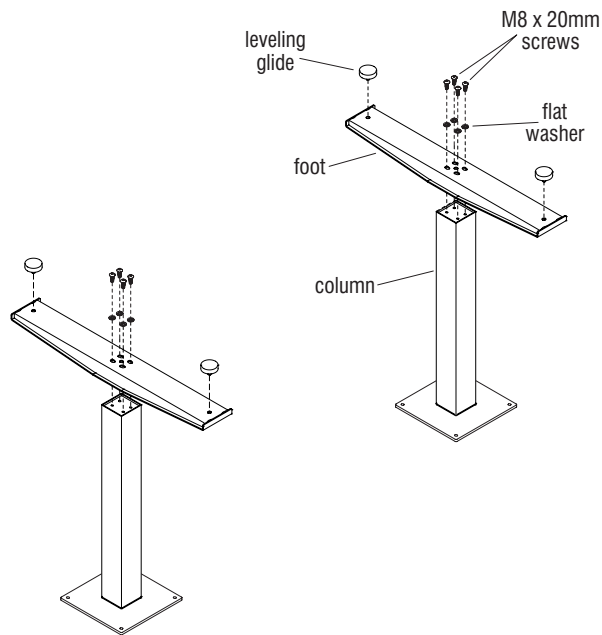

Figure 1
Note: When tightening the M8 screws, first twist all four screws in "finger tight". Then tighten the screws one quarter turn at a time using a diagonal tightening pattern as shown in Detail A. Repeat the diagonal pattern until all four screws are tight (Figure 1 & Detail A).
1. Set the column on end with the hole pattern facing up (Figure 1).
2. Place the foot over the column end so the column fits into the square hole in the foot. The slotted holes in the foot should line up with the four holes in the column end. If not the foot needs to be removed and repositioned at 90 degrees (Figure 1).
3. Attach the foot using four M8 x 20mm screws and four 8mm flat washers, tightening each screw one quarter turn at a time in a diagonal pattern until all four screws are tight (Figure 1 & Detail A).
4. Thread leveling glides into the holes at the ends of the foot (Figure 1).
5. Repeat steps 1 through 4 for the second foot and column (Figure 1).